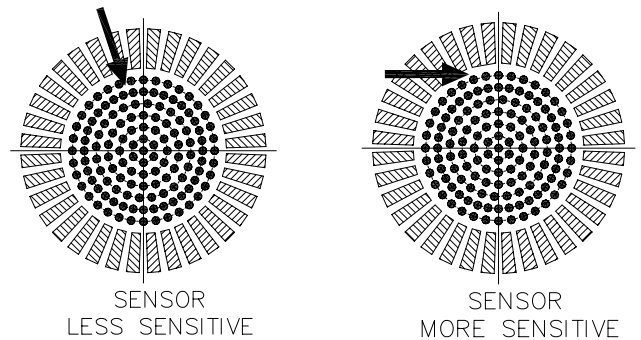

FIGURE 1
- The motion sensor is more sensitive to objects moving across its field of view. It is less sensitive to an object moving directly towards the sensor head. (FIGURE 1)